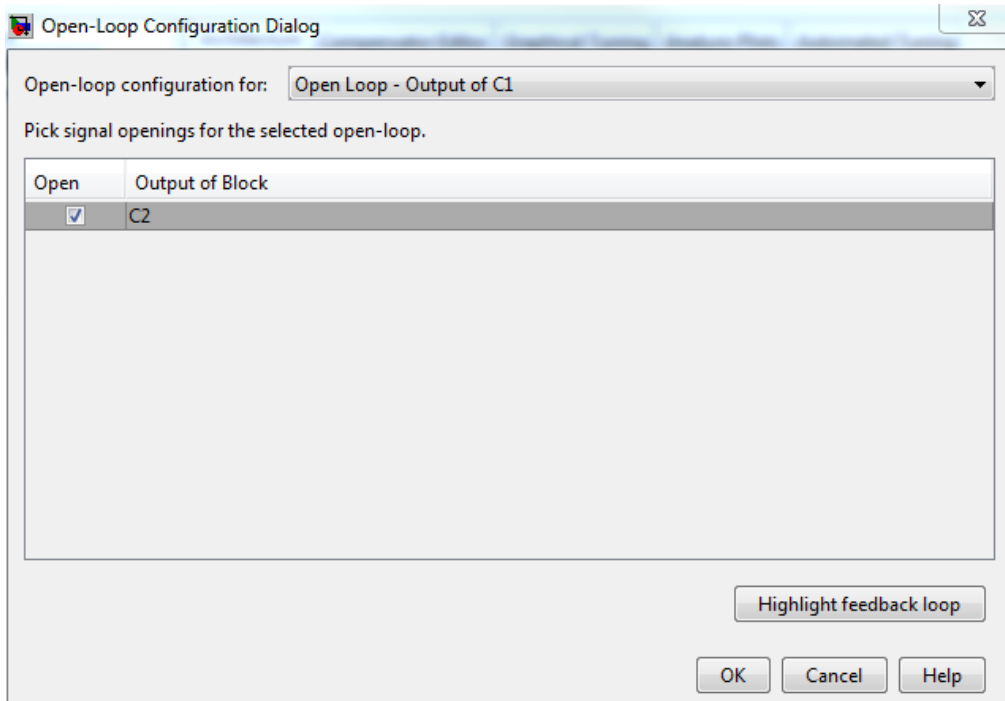

Figure 18. Open Loop Output of C1 Block.
*In the block Open-loop configuration for: select **Open Loop Output of C1** and select **Open** for Output of Block C2 (see Figure 18), then click **OK**.*